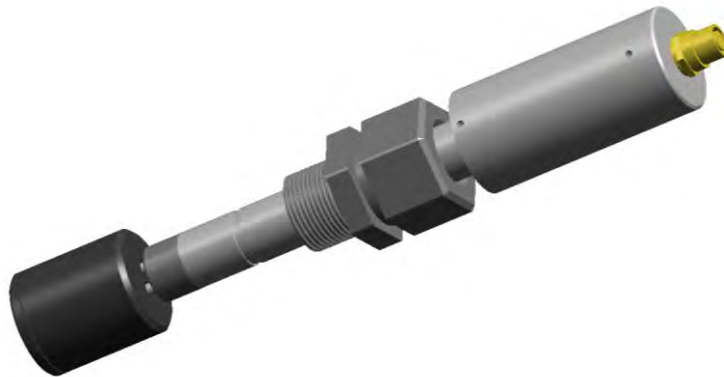

Figure 9. Plug the sensor into the calibration cap
- Plug the sensor into the calibration check cap and wait for at least 15 minutes for the sensor to carry out three measurements (figure 9)